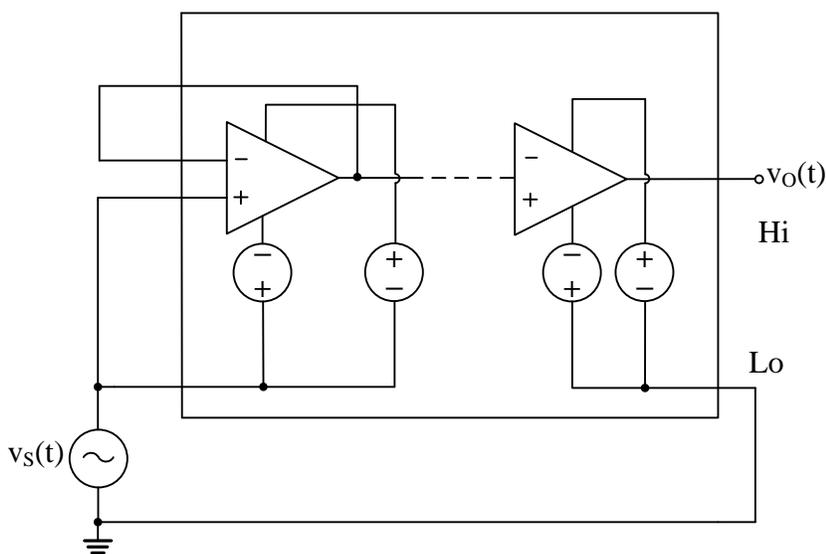

Figure 3. CMRR & CMTC Test Schematic
*Test Schematic Figure 3 @ 100Hz Sine Wave @ $v_S(t) = 1000V$.